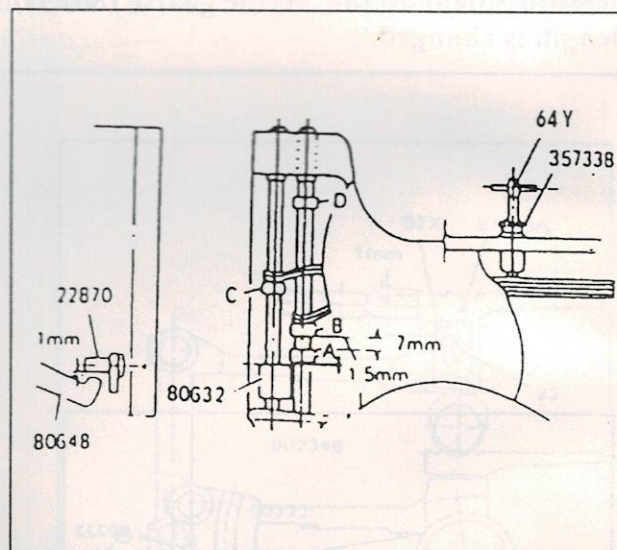

Fig. 11
1. Adjust and set the presser bar holder (80632) so that the clearance between the presser lifter lever (80648) and the presser lifter pin (22870) is 1mm, as shown in (Figure 11).